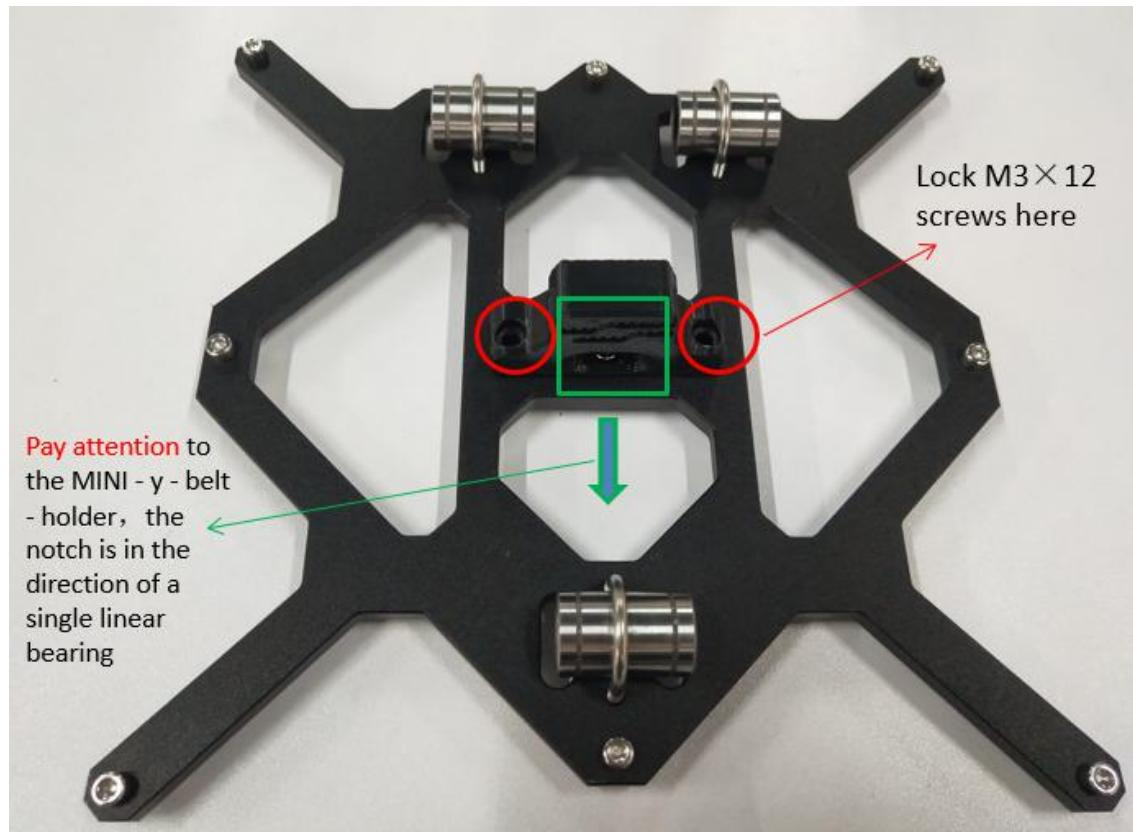

Figure 1.7.2
**Step 1-7-2:** Align the two through holes on the MINI-y-belt-holder with the two mounting holes of the hot-bed platform support plate, pay attention to the direction of the MINI-y-belt-holder slot, face to the single linear bearing, and then use two M3 × 12 cylindrical head hexagon bolts to lock it on the hot bed platform support plate. As shown in Figure 1.7.2.